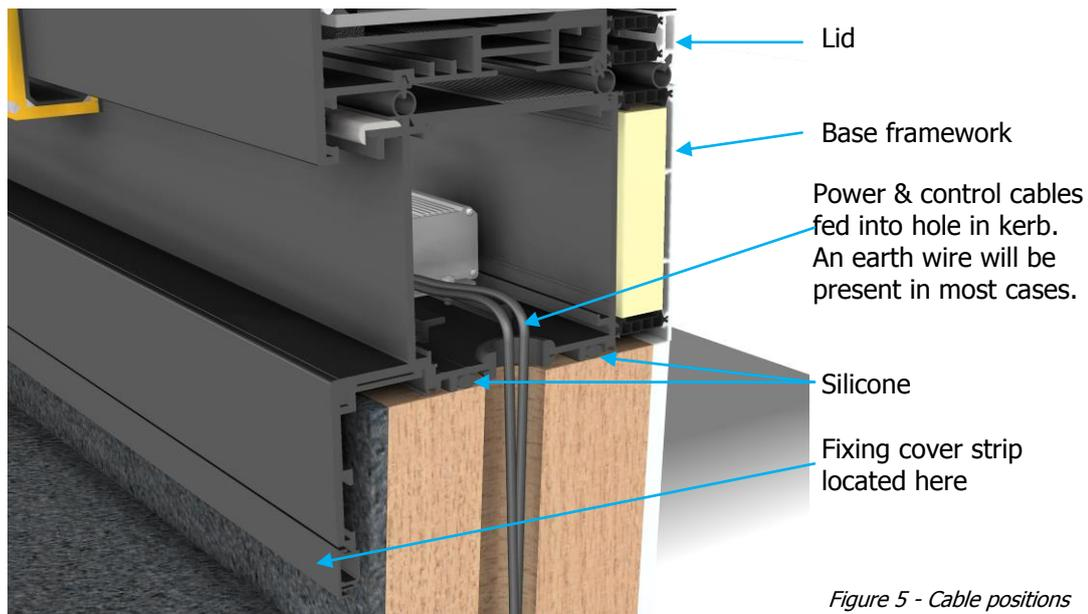

Figure 5 - Cable positions
6. Feed the power and control cables from the base framework into the hole in kerb (*Figure 5*). If options have been specified there will be additional cabling.